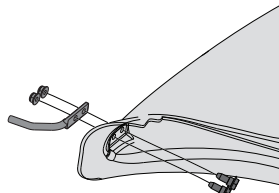

Figure 12
1. From the inside of the boot, put the two hex head screws (738-1225) through the holes at the bottom front of the boot. See Figure 12.
2. Put the mounting rod (747-06317A) in place over the hex head screws. Make sure the tip of the rod is facing out from the boot. See Figure 12.
3. Begin threading the two flange lock nuts (712-04064) onto the hex head screws. See Figure 12.